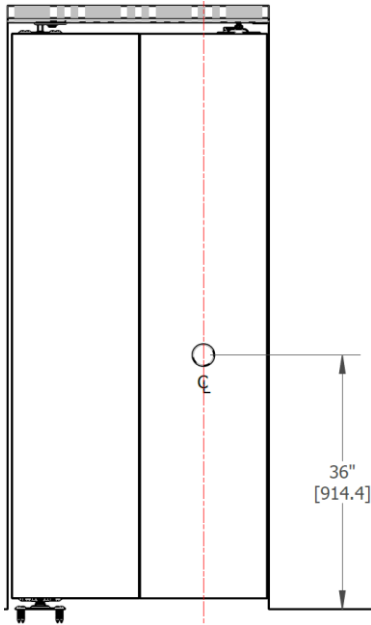

Figure 9: Wooden Knob Location
- Install the wooden knob at the vertical centerline of the guide side door as seen on Figure 9